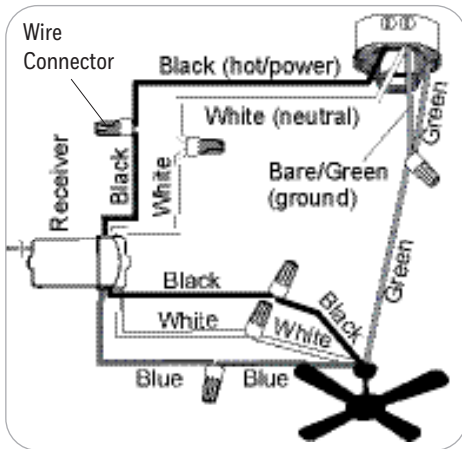

Figure 6.1
1. Use wire connectors to connect household supply and fan wires according to the diagram (Figure 6.1) and the following steps: